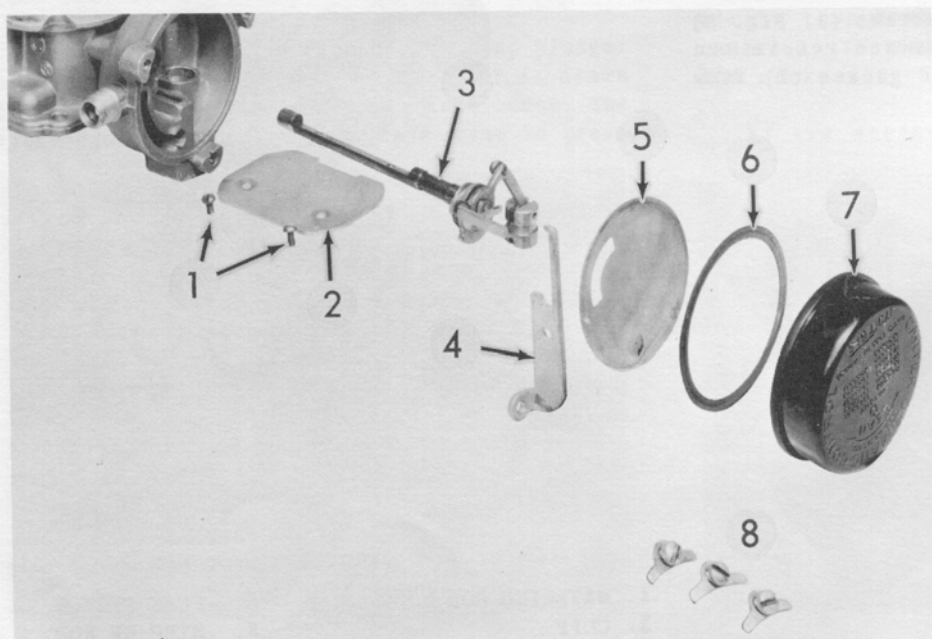

Fig. 12
Remove the choke housing retaining screws (8, Fig. 12) and remove the choke housing (7). Remove the housing gasket (6) and baffle (5). Disconnect the choke piston-to-throttle valve link (5) and remove the link.